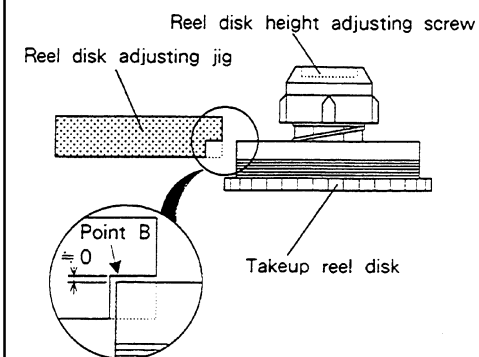

Fig. 2-11-3
- If the height of the disk is not satisfactory, hold the disk so that it does not turn, and turn the height adjusting screw at the top of the disk to adjust the height. (Refer to Fig. 2-11-3.)
- Turn the jig slowly about the point A towards the takeup reel disk to make certain that the height of the disk flange agrees with the point B on the takeup side of the jig (marked TU). (Refer to Fig. 2-11-3.)
- If the height of the disk is not satisfactory, hold the disk so that it shall not turn, and turn the height adjusting screw at the top of the disk to adjust the height. (Refer to Fig. 2-11-3.)